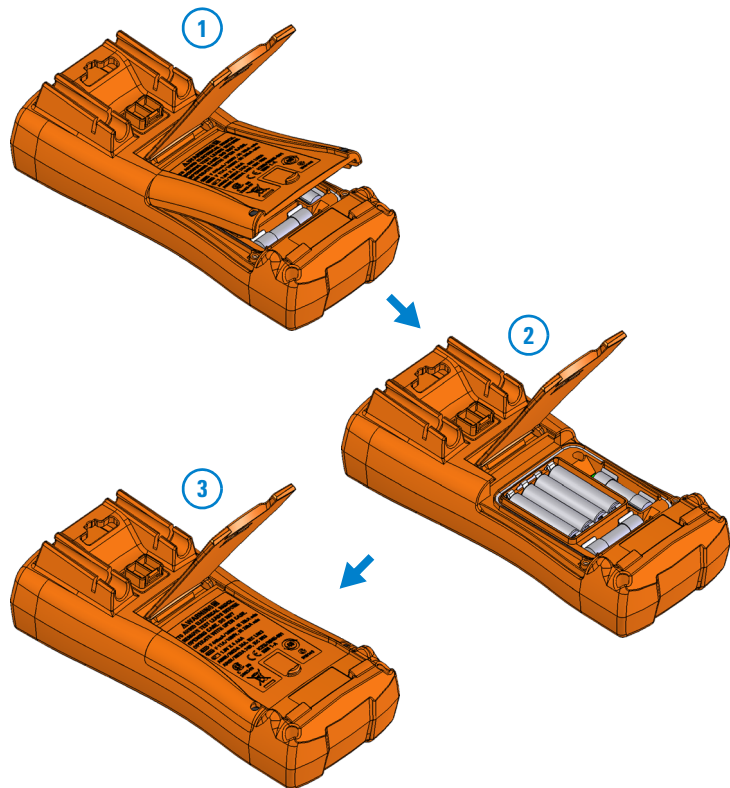

Figure 1-1 Installing the batteries
- 1 Open the battery cover.** Lift the tilt stand, loosen the screws with a suitable Phillips screwdriver, and remove the battery cover as shown in Figure 1-1.